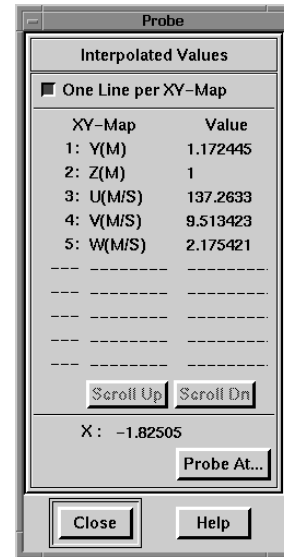

Figure 26-4. The Probe dialog for XY-mappings.
2. Move the pointer into the workspace, where it becomes a cross-hair. When you move into the axis grid area, the cross-hair is augmented by a vertical or horizontal line, depending on whether you are probing along the X-axis or the Y-axis. Click at the desired X- or Y-location. A cross appears on each probed XY-mapping at the probed location, and the Probe dialog appears with a title of Interpolated Values, as in Figure 26-4.
For interpolated plot values, the Probe dialog appears with the heading Interpolated Values and lists every XY-map currently active for the current frame, together with the value of the dependent variable at the specified probe point (see Figure 26-4).